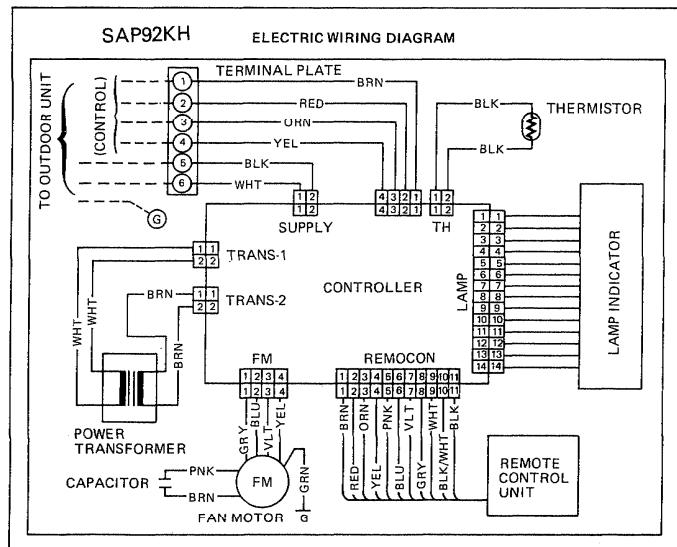

Fig. E-12H
2. Set the resistance measuring range of multimeter to "X1Ω" and measure the resistance of the lead wires between WHT-WHT and BRN-BRN as shown in Fig. E-12H.